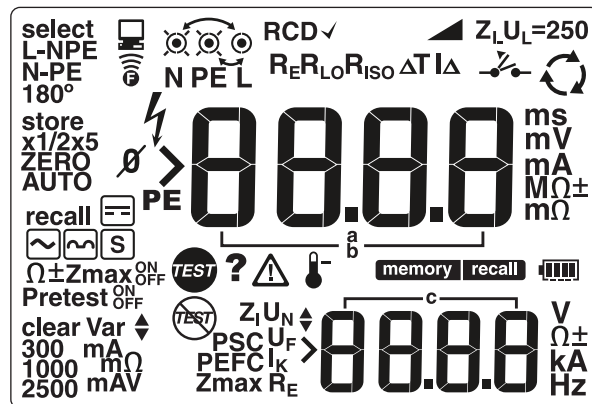

Figure 2. LCD Tests
4. Compare the display segments on the Tester to Figure 2. Check for any missing segments or poor contrast areas.